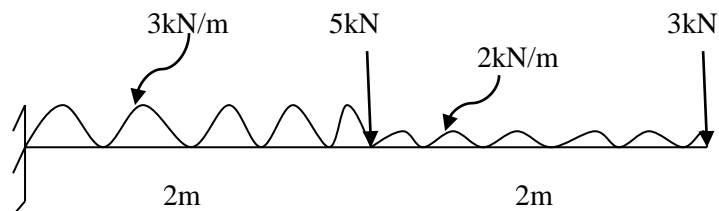

Figure. 3
- (c) Draw shear force and bending moment diagram for the beam. as shown in figure.3 ૦૪